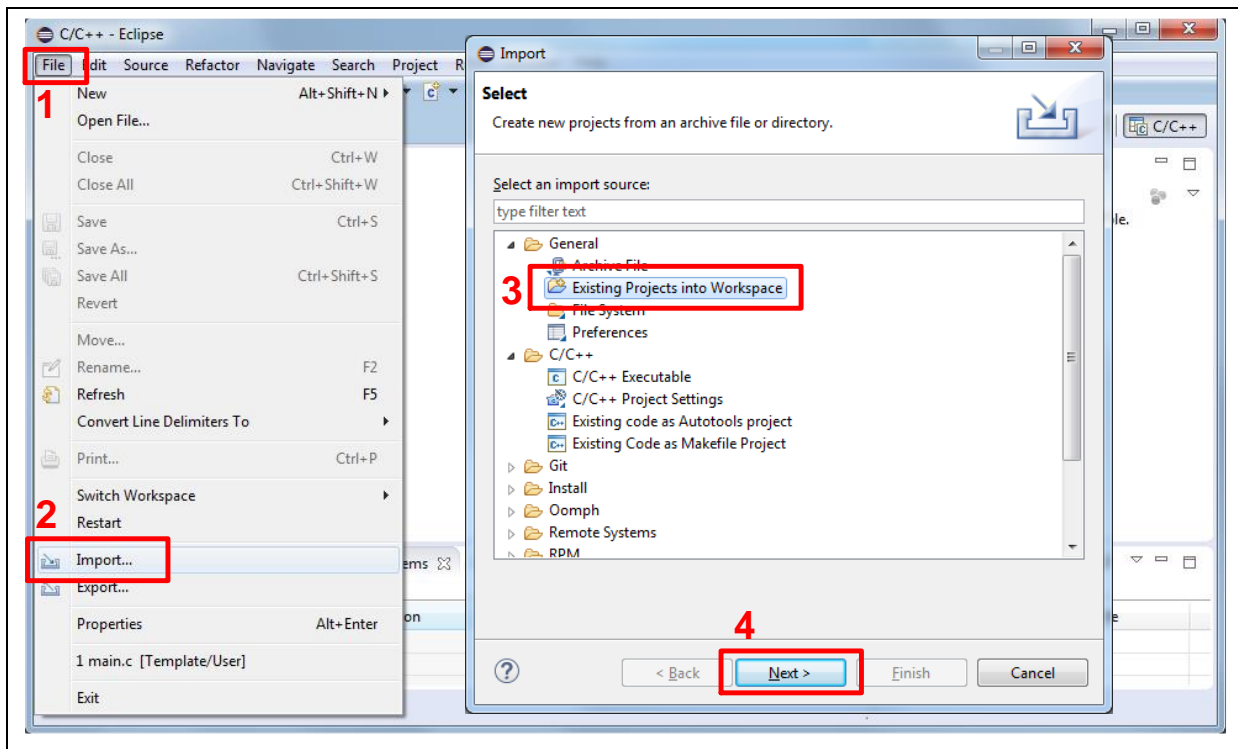
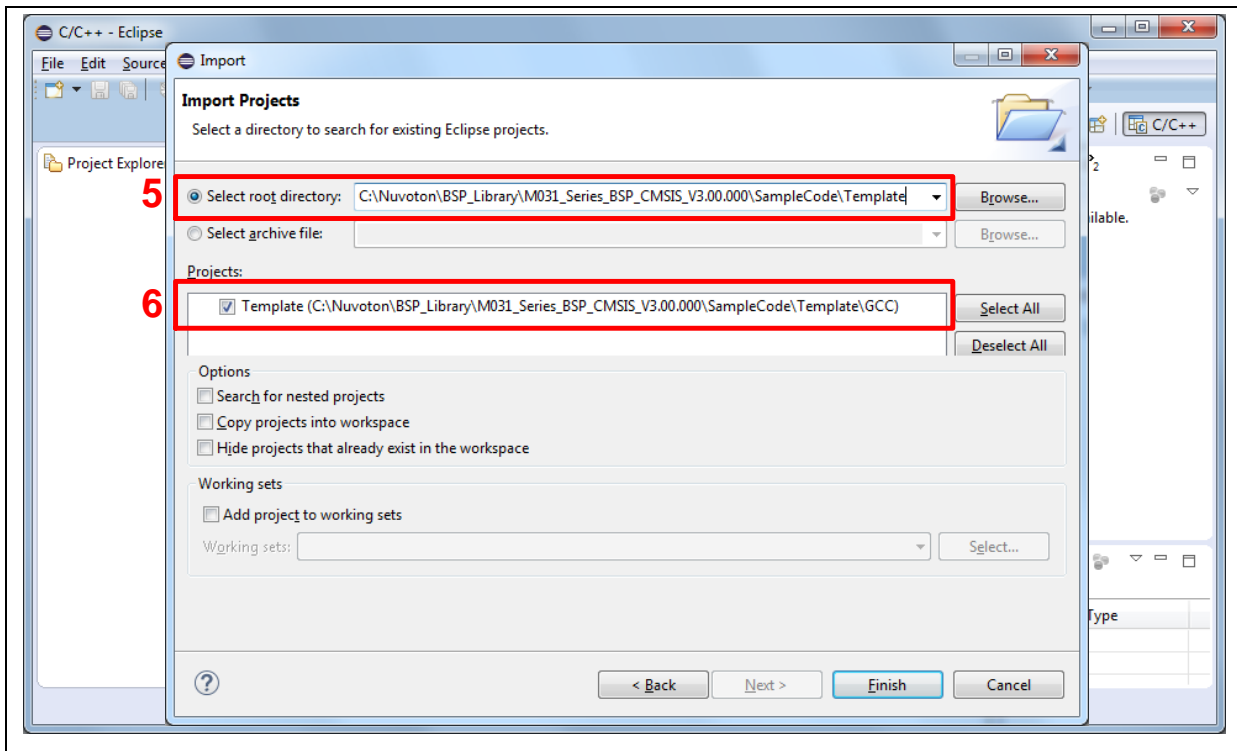

Figure 3-19 Import the Project in NuEclipse
Figure 3-20 Import Projects Windows
2. Import the “Template” project by following the steps presented in Figure 3-19 and Figure 3-20.